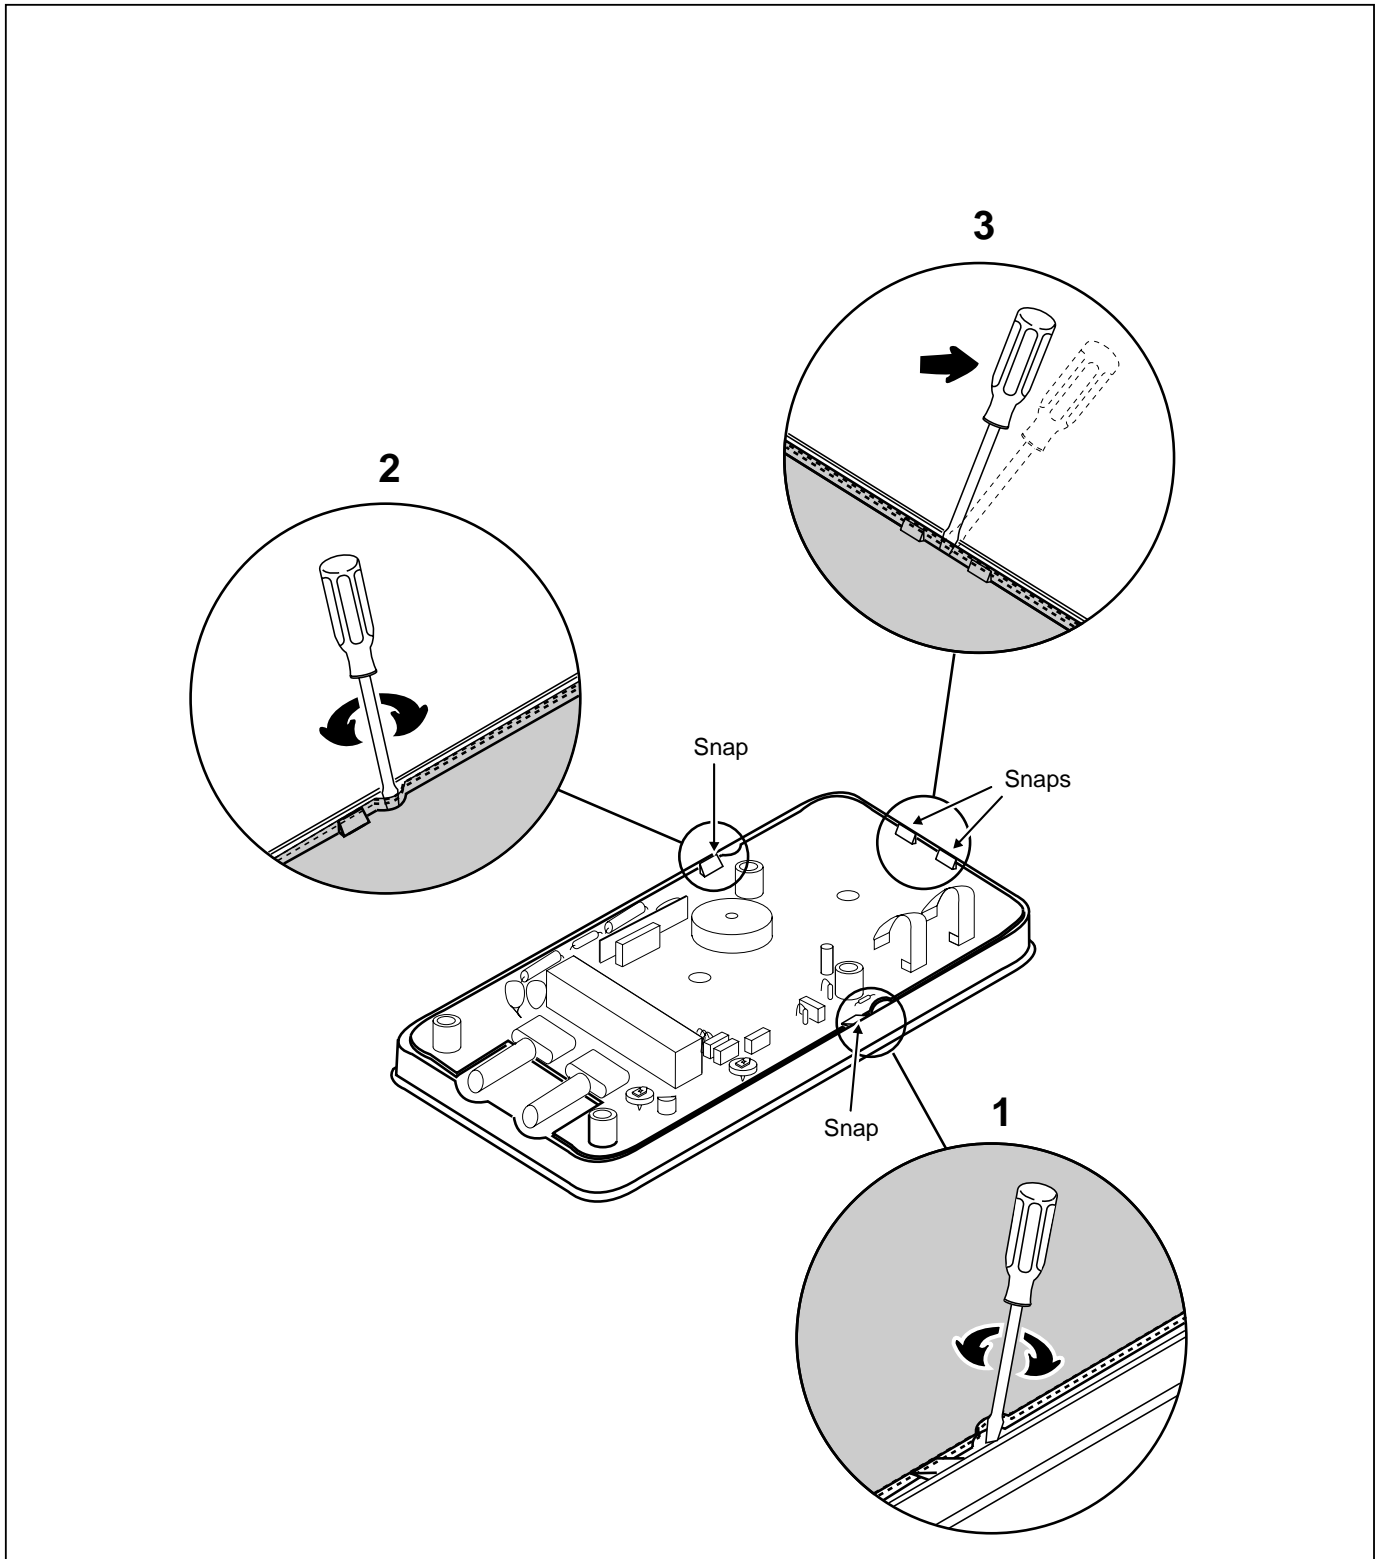

Figure 2. Removing and Reinserting the Printed Circuit Assembly
5. **To remove the pca:** insert a small, flat-blade screwdriver between the edge of the case top and the pca where shown in Figure 2. Gently unsnap a side of the case top from the pca. Repeat on the other side of the pca. Unsnap the case from the top of the pca last.
8. To remove the switch support, use a small, flat-blade screwdriver to gently unsnap the sides and top of the switch support from the snaps shown in Figure 2.